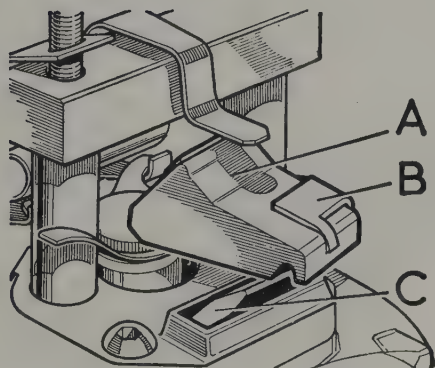

Fig. 9.15. Rear caliper strut (A) pawl (B) and lever (C)
- 3 Mark the strut "B" (Fig. 9.15) to ensure correct refitment and then withdraw it by lifting lever "C".